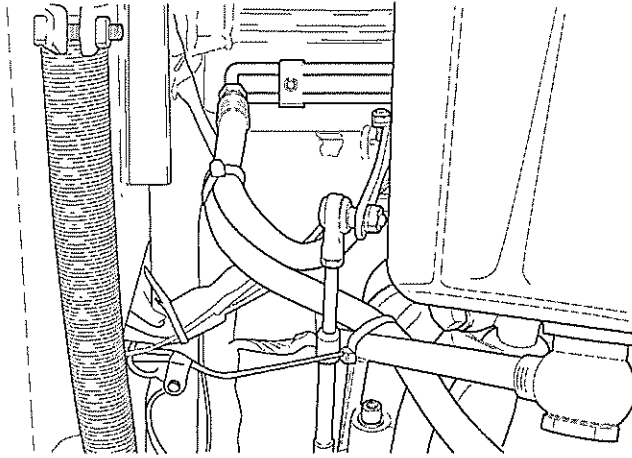

Fig 10 Oil hose connection
19.4 Loosen nuts and remove hoses (see Fig 10).